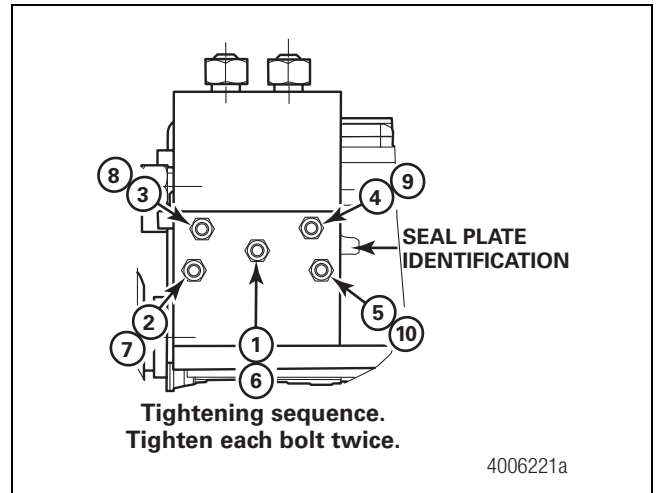

Figure 4.29
1. Place a screw into the center mounting hole of the relay valve. Use a hex-head socket tool for positioning. Place the new relay valve seal onto the relay valve using the screw to align the seal. The orientation should match Figure 4.29. Position the relay valve against the HCU. Thread the screw into the HCU.
3. Use a torque wrench to tighten all five screws to 71 in-lb (8 N•m) following the numbered sequence illustrated in Figure 4.29.